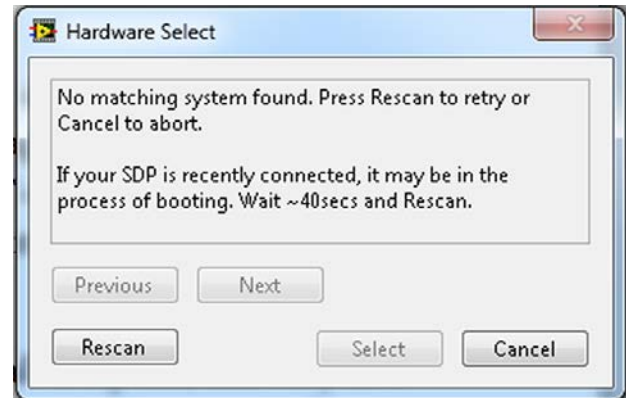

Figure 7. Pop-Up Window Error
2. If the SDP board is not connected to the USB port when the software is launched, a connectivity error displays (see Figure 7). If a connectivity error is displayed, connect the evaluation board to the USB port of the PC and wait a few seconds, and then click **Rescan** and follow the instructions that appear on-screen.